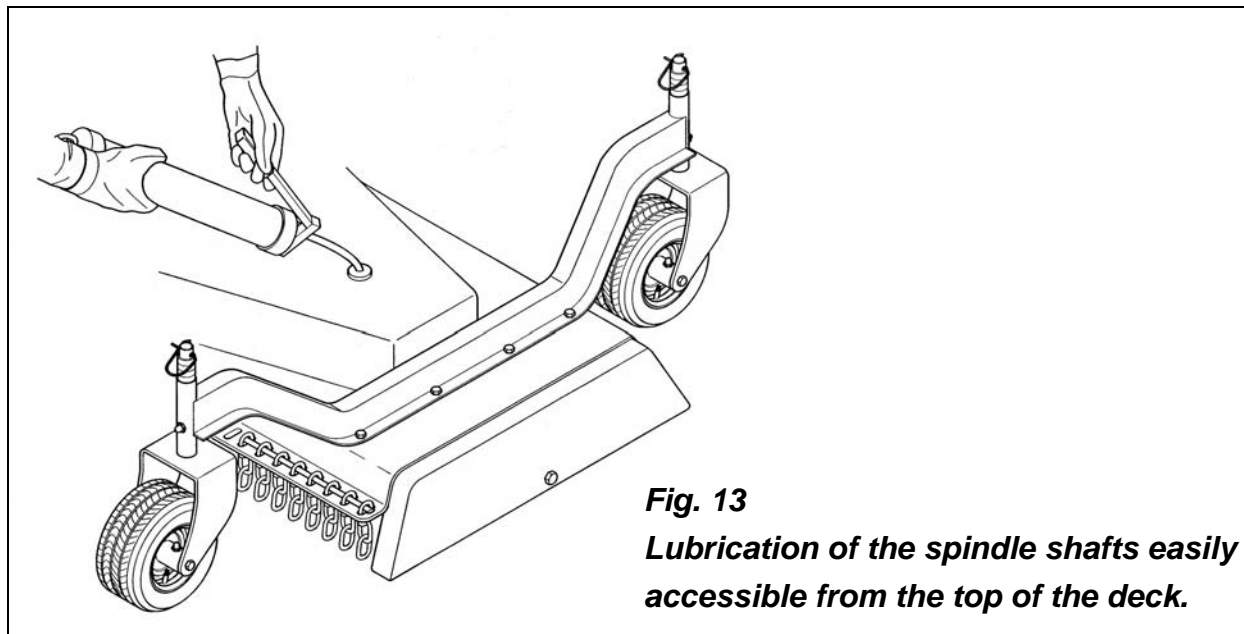

Fig. 13
1. Lubricate the three spindles with two or three shots of multipurpose grease (**see fig. 13**). The top grease fittings are easily accessible from the top of the deck by simply removing the plastic dust guards.